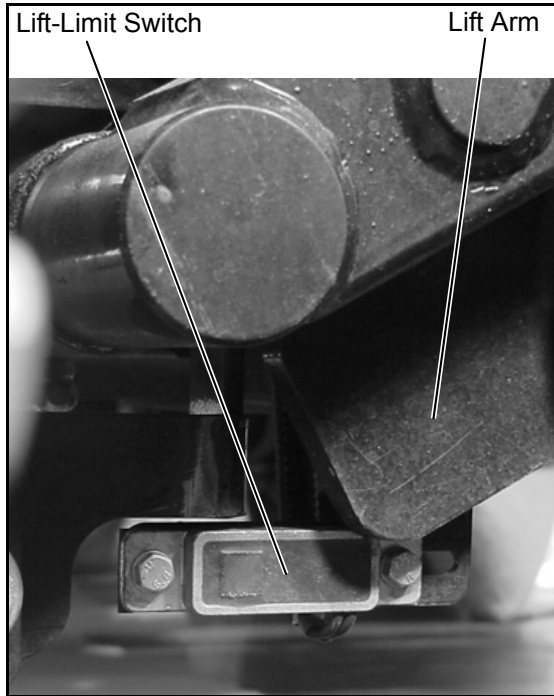

Figure 2C-13. Lift Switch Mounting
8. Manually lower the lift arm. The switch contact should close when the lift arm drops below 30° (Figure 2C-13).